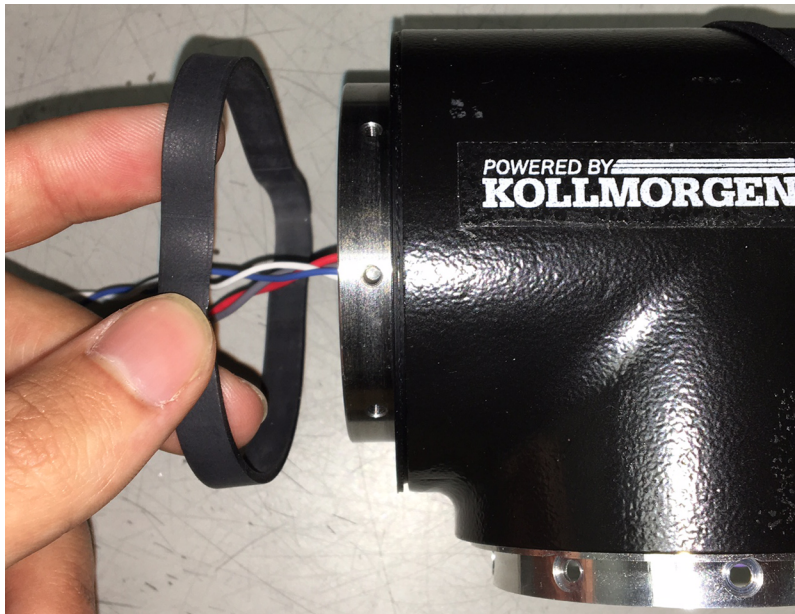

Figure 5: Push the flexible seal band until flush with the housing plate.
For applications where multiple RGM units will be assembled together in a direct joint-to-joint configuration and sealing (IP54 or lower) is desired, Kollmorgen offers an optional seal kit for the bolted joint (RGMXX Customer Parts Kit). This kit includes mounting screws, a plastic sealing ring (see **Figure 4**) and a flexible seal band (see **Figure 5**).
3. Confirm that the plastic ring is pushed inward until it is flush with the housing as shown in **Figure 5**, so it does not obstruct access to the threaded holes on the OD of the mounting plate.